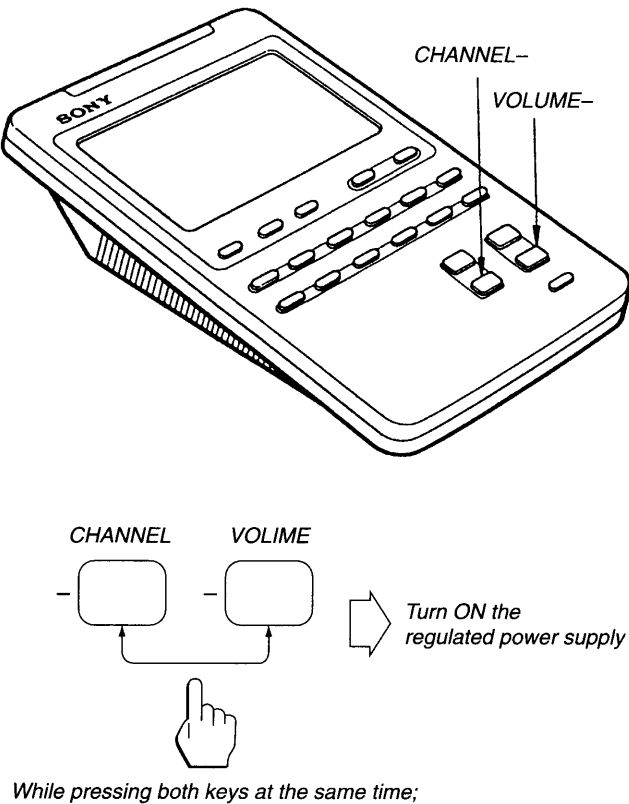

Fig. 2-1
- 1) While pressing the **VOLUME-** key and the **CHANNEL+** key, turn ON the main power of the regulated power supply (DC +6V). (Refer to Fig. 2-1.)